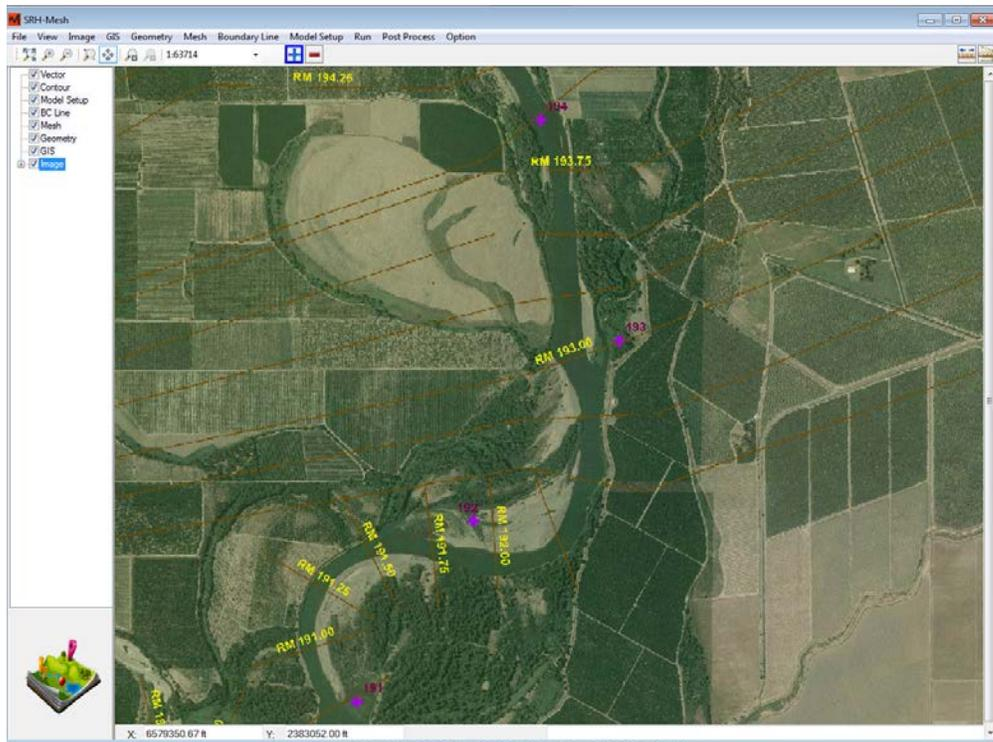

Figure 5-3. Input Image.
Step 3: Click GIS in the table of contents and click the add button **+** in the GIS Module toolbar to import GIS data to the project. For the tutorial case, navigate to the directory where the GIS resides (e.g., GIS Data\Sacramento_RM192) and select “RM192.tif” file to add the map to the project. Use the zoom buttons to check the map (Figure 5-3).